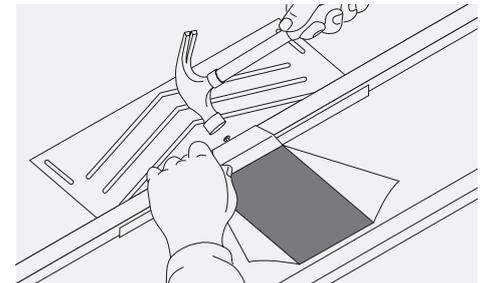

Fig. 3 – Cut and nail back underlay
- 7 Secure soaker tray by folding cut underlay over batten and nail into top edge of tiling batten above (Fig. 3).
9 Lay adjacent tiling in normal manner (Fig. 3).